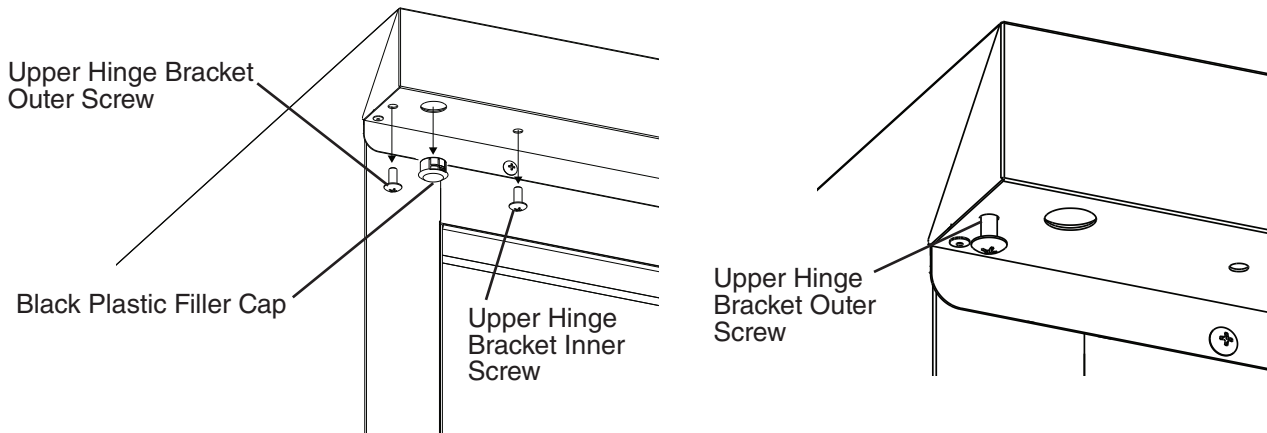

Fig. 12
- 13) Remove the upper hinge bracket screws from the new location and apply Loctite Threadlocker Blue 242 or 243 to the threads. Next, start the upper hinge bracket outer screw into the appliance. Rotate a few threads into the appliance; do not tighten the screw. See Fig. 12.